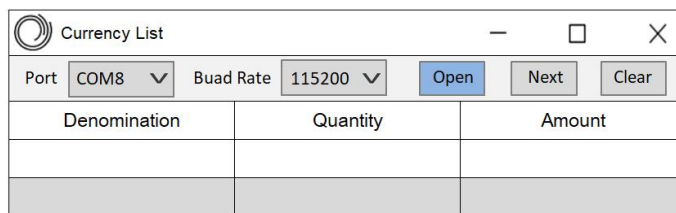

Figure 82
2) Select serial port and baud rate, and the baud rate must be consistent with the baud rate selected on the machine, as shown in Figure 82 below.